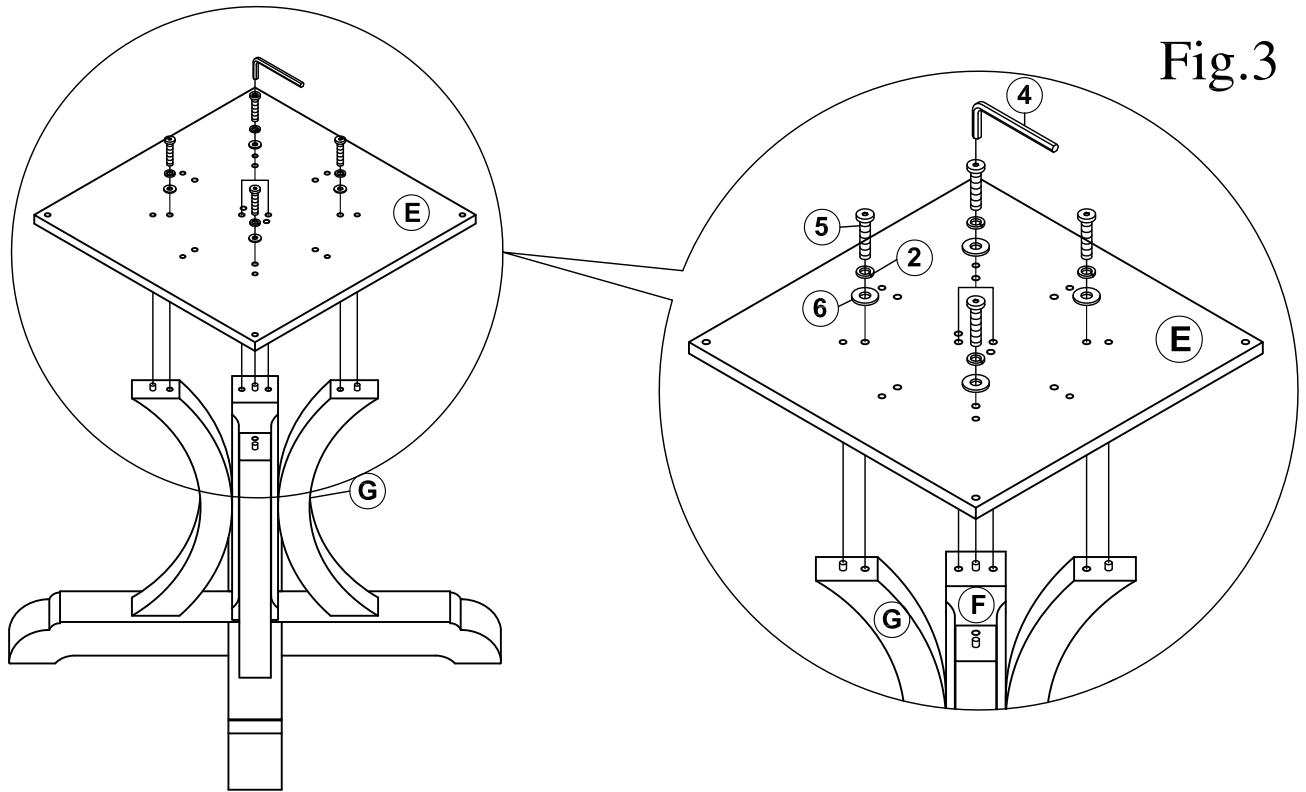

Fig.3
Attach Mounting Plate (E) to the Post (F) and Trestle Bar (G) using the provided hardware as shown on Fig.3.